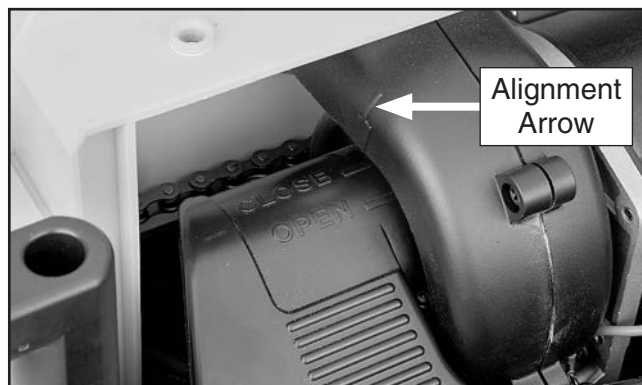

Figure 4. Alignment arrow on dust shroud.
4. Rotate dust shroud away from cutterhead so alignment arrow on fan housing aligns with **OPEN** line on dust shroud (see **Figure 4**).